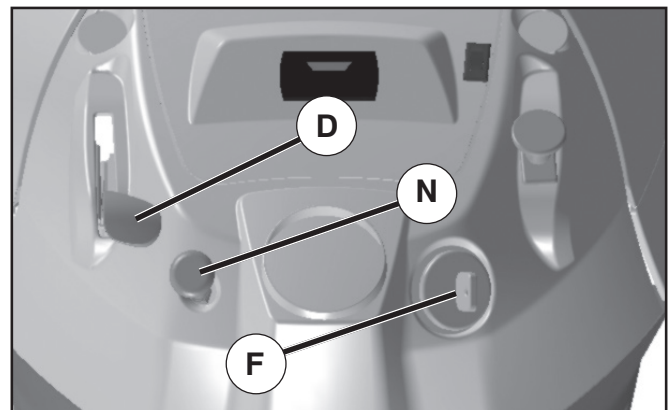

Fig. 21
TO USE THROTTLE CONTROL (D) (See Fig. 21)
TO USE CHOKE CONTROL (N) (See Fig. 21)